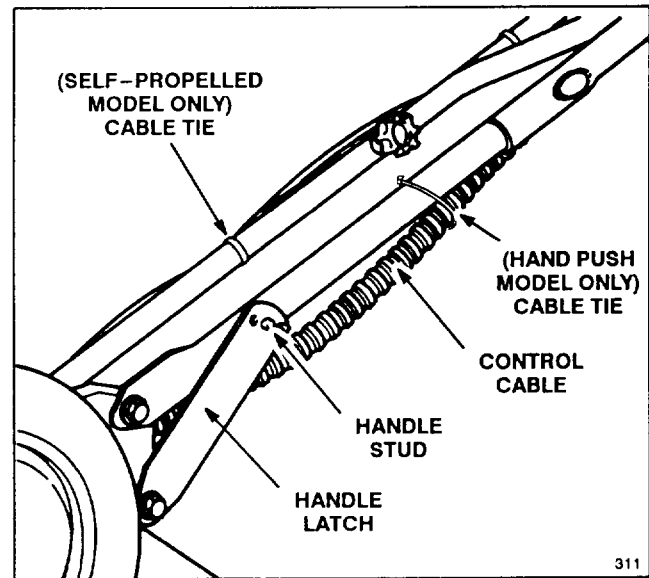

Figure 2
2. The left handle knob is shipped from the factory on the outside of the handle (Fig. 1). Remove the left knob and bolt. Reinstall knob and bolt on inside of handle (Fig. 2). Both handle knobs should be positioned on the inside of the handles. Tighten handle knobs.
3. Move handle latches slightly outward so they will not be in the way when pivoting the handle backward into the operating position (Fig. 2).
4. Pivot handle backward. Move handle latches inward while snapping handle stud into center hole of handle latch (Fig. 2). If a handle latch does not fit tightly against the handle tube, remove latch from handle stud, bend the latch inward, and reattach to handle stud. Repeat as necessary to ensure a tight fit between latch and handle. Make sure handle knobs are securely tightened.
**Note:** If handle height is not satisfactory, adjust by placing handle stud (Fig. 2) into a different hole. Tighten handle knobs.
5. Ensure control cables (Fig. 2) are to the rear and inside of handles. Secure control cables in position with cable ties (Fig. 2).